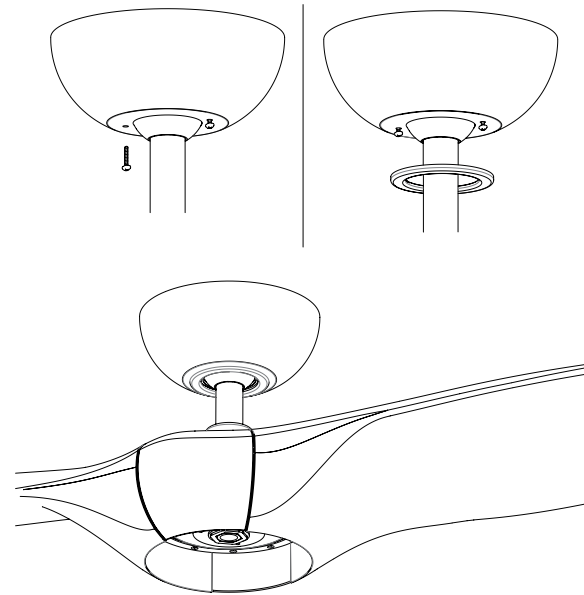

FIGURE 20
3. Slide the canopy up to hanger bracket and place the key hole on the canopy over the screw on the hanger bracket. Turn canopy until it locks in place at the narrow section of the key holes (**FIG. 20**).